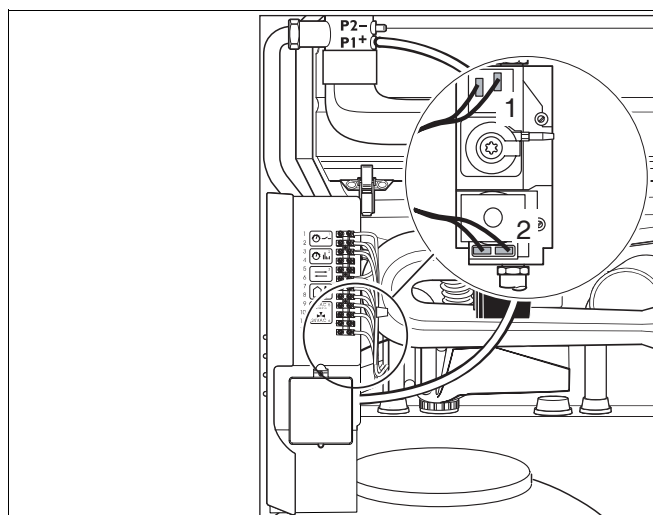

fig. 80 Checking the wiring connections on the gas-valve assembly (HONEYWELL assembly illustrated to provide example)
Blue plug-in lead: fig. 80, item 1 ;
White plug-in lead: fig. 80, item 2.